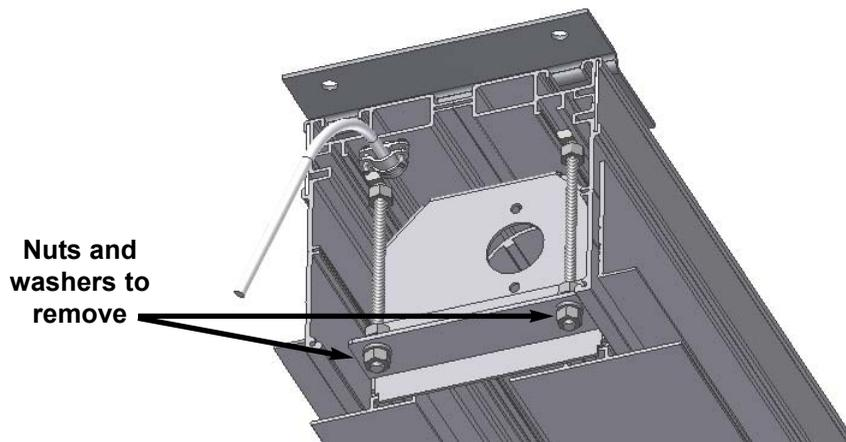

Figure 3: Unit end
- From under the unit, remove the two nuts and washers from the studs at each end. Retain the hardware for later reuse in installation. Refer to Figure 3.